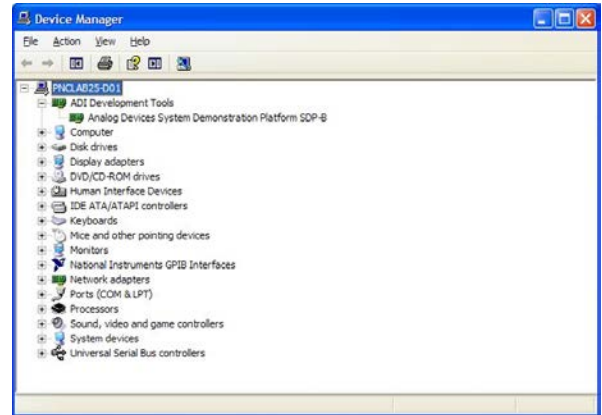

Figure 15. Device Manager:
- b. Under **ADI Development Tools**, **Analog Devices System Development Platform SDP-B** appears (see Figure 15), indicating the **EVAL-SDP-CB1Z** driver software is installed and the **EVAL-ADAQ7980SDZ** is connected to the PC correctly.